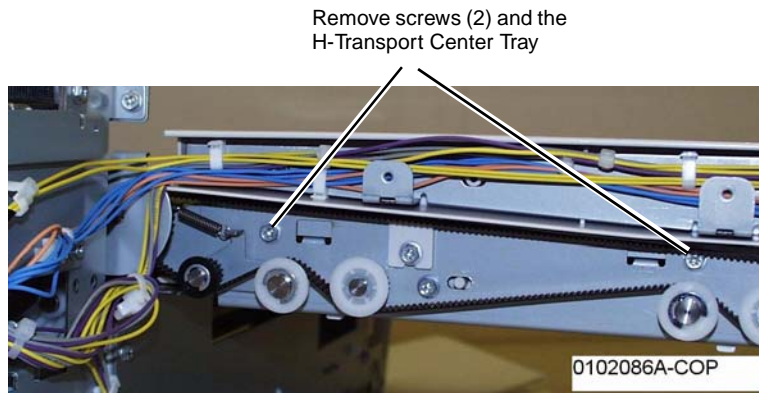

Figure 1 Removing the H-Transport Center Tray
5. Remove the H-Transport Center Tray (Figure 1).